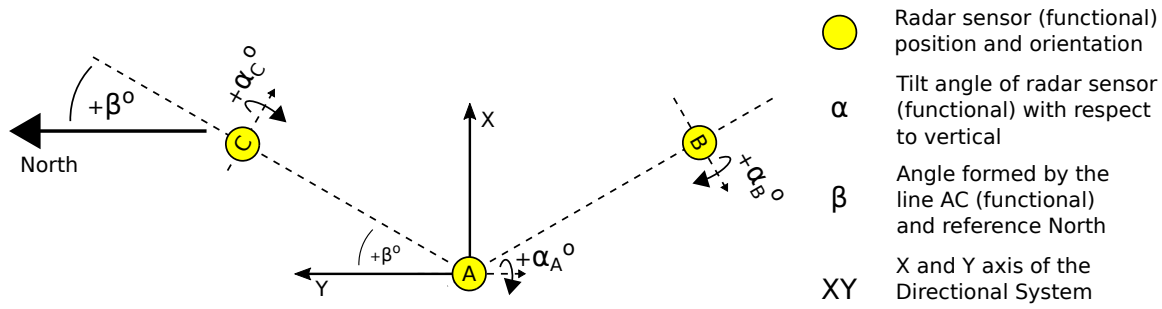
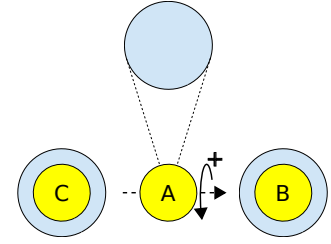

Figure 1.3: Definitions for WaveGuide Direction-OnBoard 2 systems.
Figure 1.7: Top view of the three radars labeled A, B and C.
- When specifying a tilt angle for radar B and C, the tilting direction will be aligned with the position of radar A and the tilt angle will be positive when tilting away from A. (Right hand rule in Fig. 1.3.)
- When specifying a tilt angle for radar A the tilting direction must align with the center of the angle formed by the lines AB & AC. The rotation axis follows the right hand rule as shown in Fig 1.3.
In some cases it can be decided to mount the three radars in line with each other, for example when mounting them to the railing of an offshore platform. This installation is called a line array. In this case the central radar needs to be tilted to obtain a triangular reflection footprint, which is illustrated in Fig. 1.7. In a line array, the tilting definitions (Fig. 1.3) require that radar A is positioned between radar B and C. This allows tilting radar A away from the line B-C and by doing so forming a triangle with the radar foot prints on the water surface. The direction of the radar tilt angle is defined with the right hand rule as shown in Fig. 1.7.